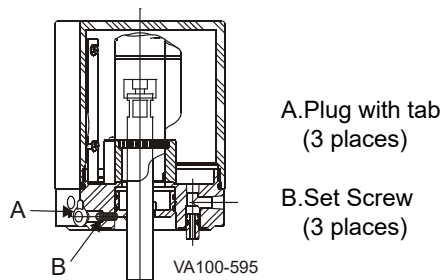

Figure 48 - WCB Control Top Removal
2. Remove the (3) set screws behind the (3) plastic plugs with tabs at the base of the control top (Figure 48).